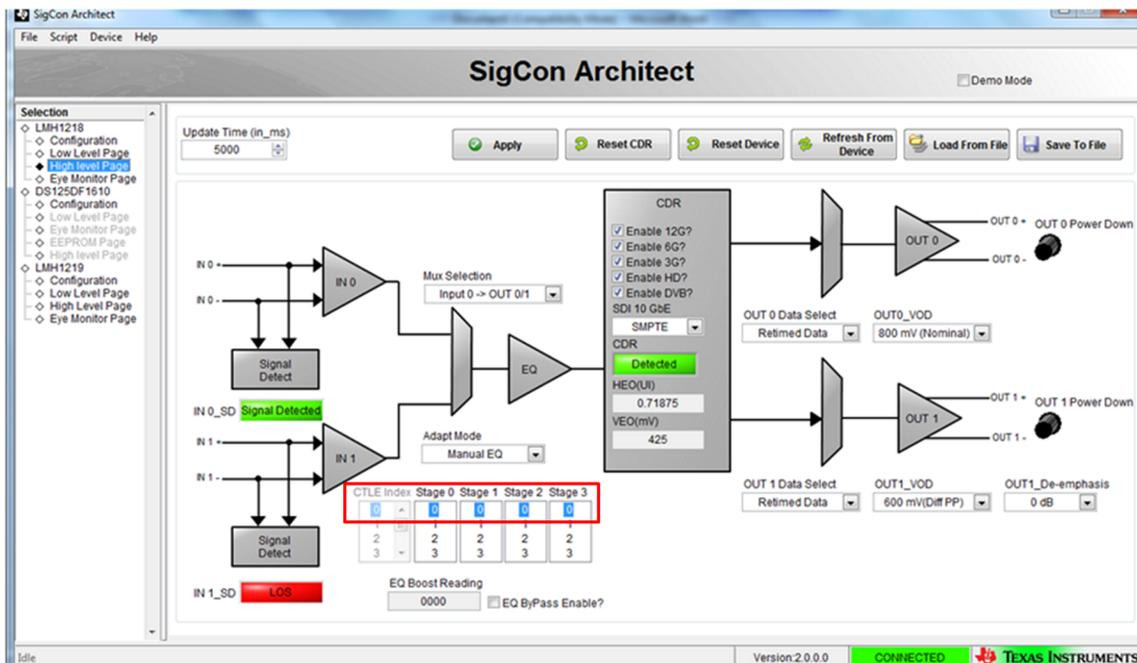

Figure 7. LMH1218 High Level GUI
- After successfully establishing communication between the SigCon Architect software and the device, select the *High Level Page* tab for the LMH1218 (see Figure 7). By default, the channel CTLE gain has been set to compensate for a long PCB trace. When using a serial digital interface (SDI) with the TIDA-00428 device, TI recommends setting the CTLE gain to 0x00 (see Figure 8). See the *LMH1218 Programming Guide* for the applicable settings (SNLU174).
NOTE: The LMH1218 CTLE gain setting is set to 0x80 to equalize long traces. In some cases, this setting must be forced to 0x00 (see Figure 7).